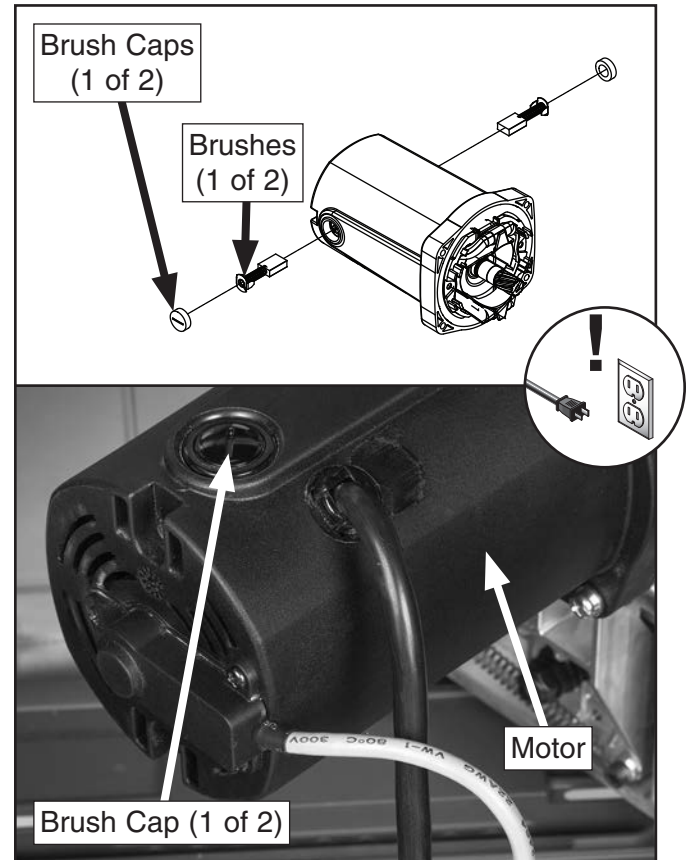

Figure 91. Location of motor brushes and brush caps.
2. Remove brush caps and worn brushes (see **Figure 91**) from motor.